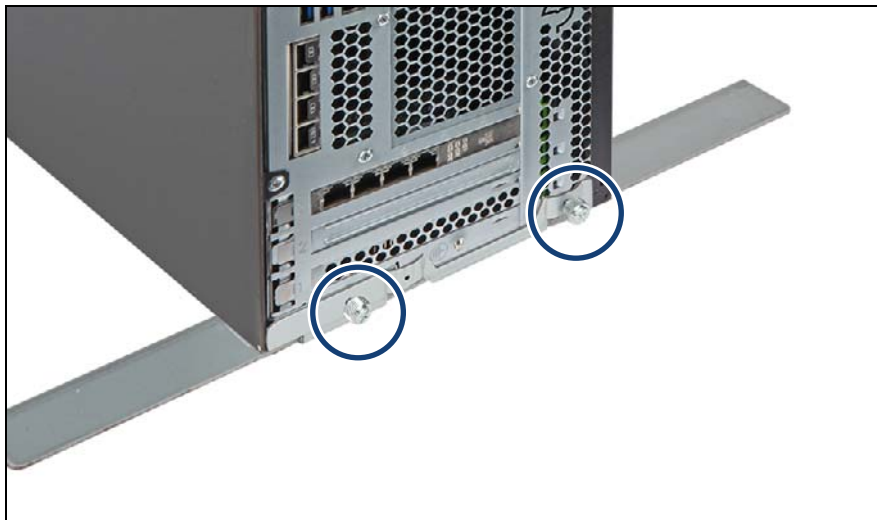

Figure 54: Installing the anti-tilt bracket (B)
- Loosen the two knurled thumb screws on the anti-tilt bracket (see figure 54).